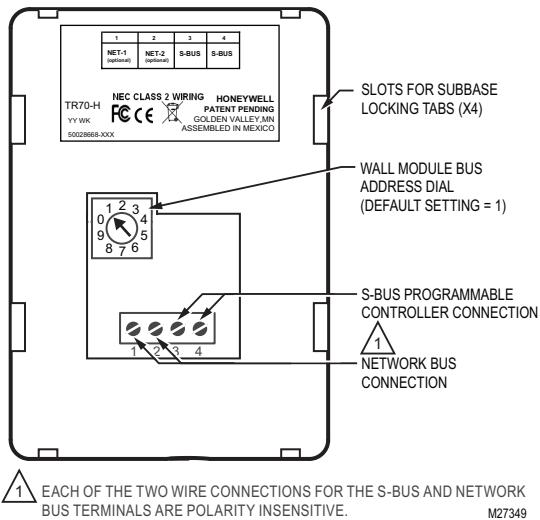

Fig. 6. Terminal connections, Wall Module bus address dial, and TR70-H DIP Switch (rear view of LCD wall module).
The network bus and S-BUS terminals (see Fig. 6 on page 4) are insensitive to polarity, minimizing installation errors due to mis-wiring. The recommended wire size for the network bus and S-BUS is Level IV, 22 AWG (0.33 sq. mm) plenum or non-plenum rated, unshielded, twisted pair, solid conductor wire.
Attach the wires from the programmable controller and network to the appropriate wall module terminals, as indicated in Fig. 6 on page 4.
Wire the terminal block shown in Fig. 6 as follows:
4. Review and verify the terminal connection wiring illustrated in Fig. 6.